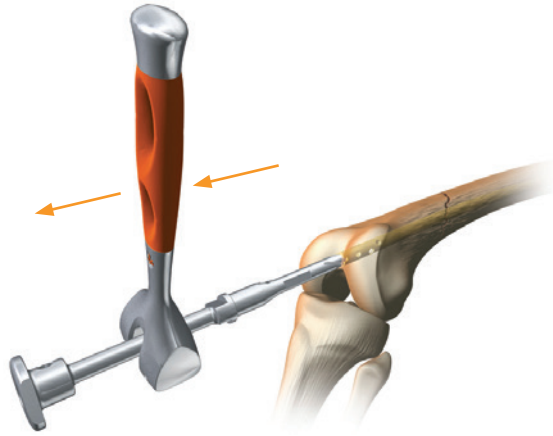

Figure 32
5. Use the Slotted Hammer with a back-slapping motion to extract the nail (Figure 32).